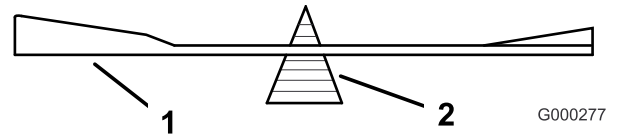

Figure 59
balanced, file some metal off the end of the sail area only (Figure 59). Repeat this procedure until the blade is balanced.
2. Check the balance of the blade by putting it on a blade balancer (Figure 59).